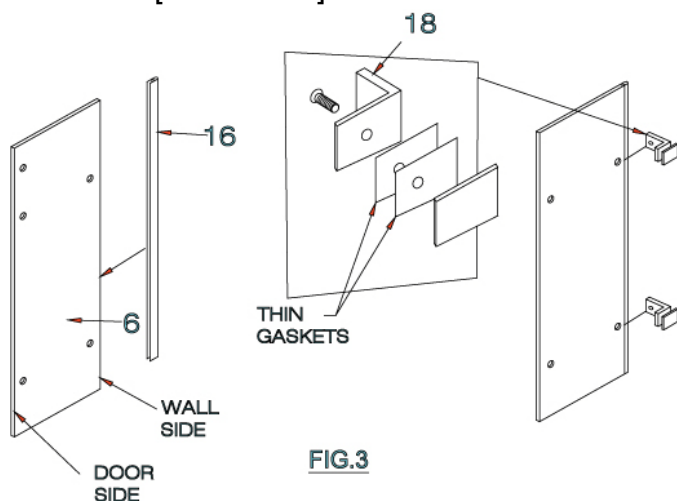

FIG.3
3. Install the seal strip (#16) from the wall side of the side glass panel (#6). [SEE FIG.3]